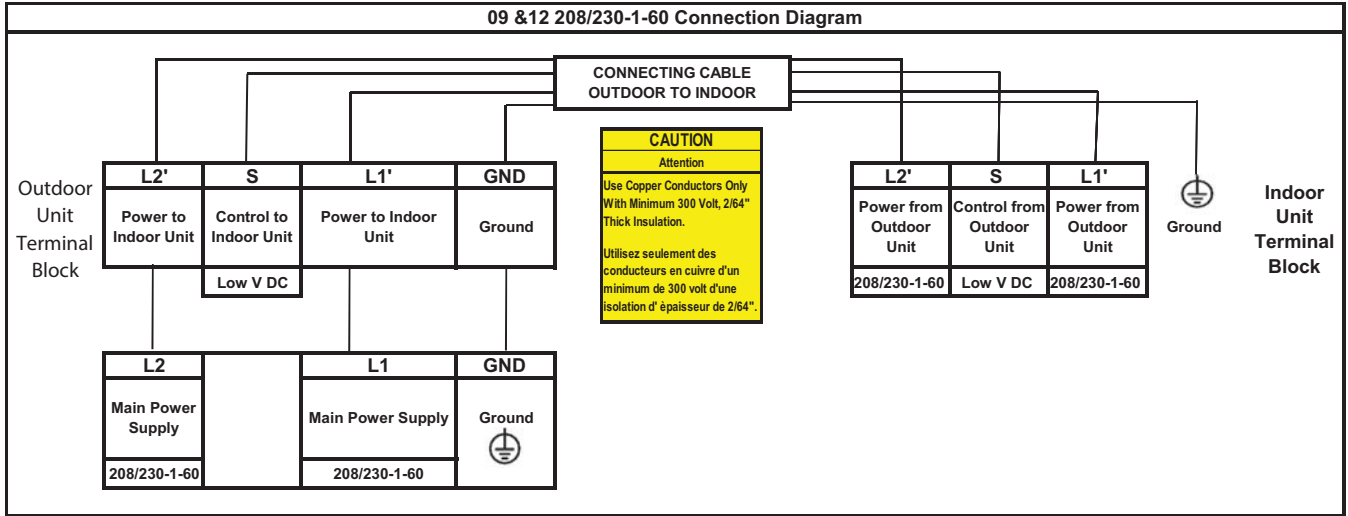

Fig. 23 – 09K & 12K Unit Wiring Diagrams
8. Connect wiring from outdoor unit per connection diagram (see Fig. 23).